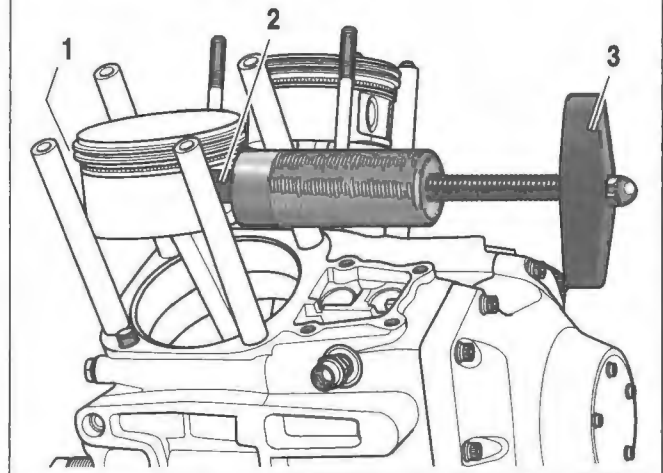

Figure 3-27. Piston Pin Remover (Part No. HD-42320-A)
3. See Figure 3-27. Remove the piston pin. If piston pin is difficult to remove, use PISTON PIN REMOVER (Part No. HD-42320-A).
- b. Slide rod end through piston pin. Install spacer and acorn nut (1) on end of rod.
- c. Position rubber-coated tips (2) of tool on flat each side of pin bore.
- d. Turn handle (3) in a clockwise direction until piston pin is pulled free of bore.